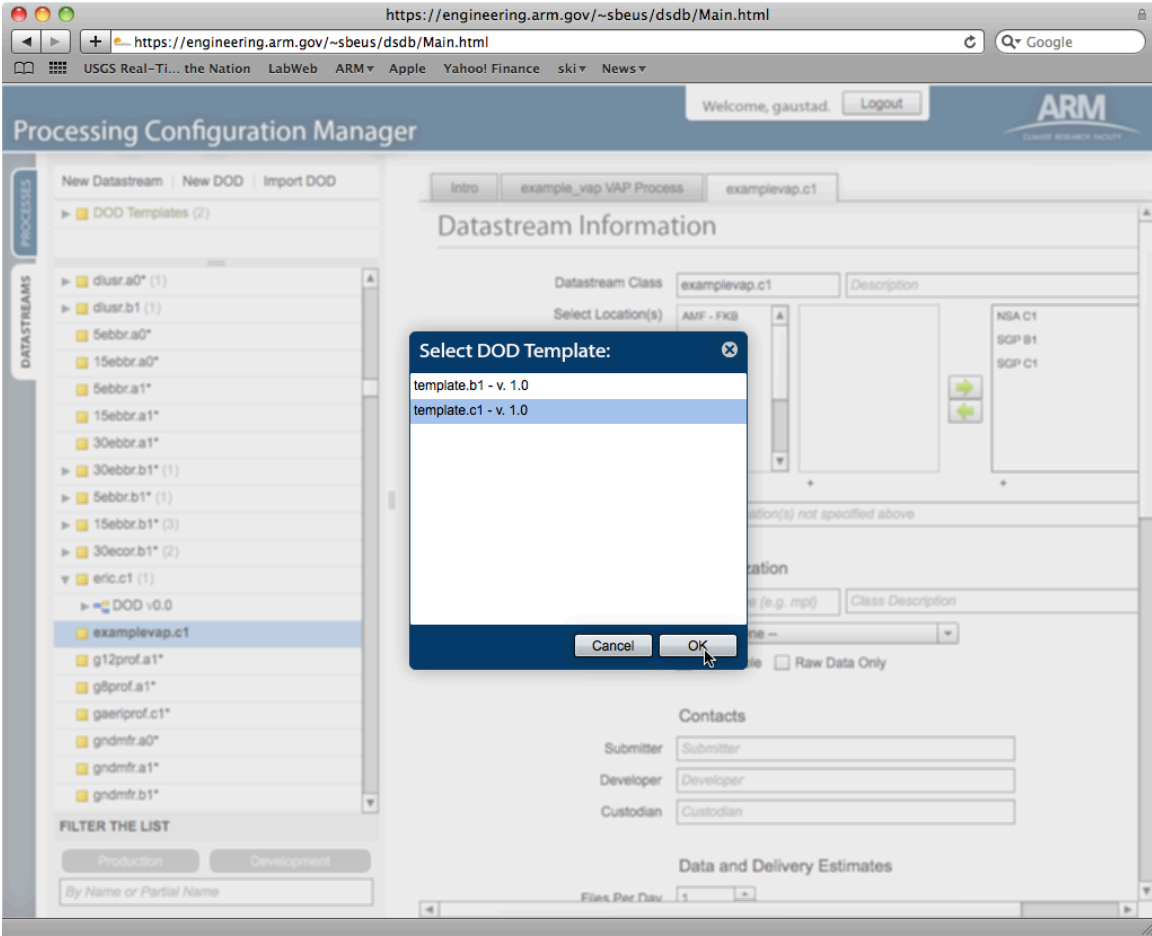
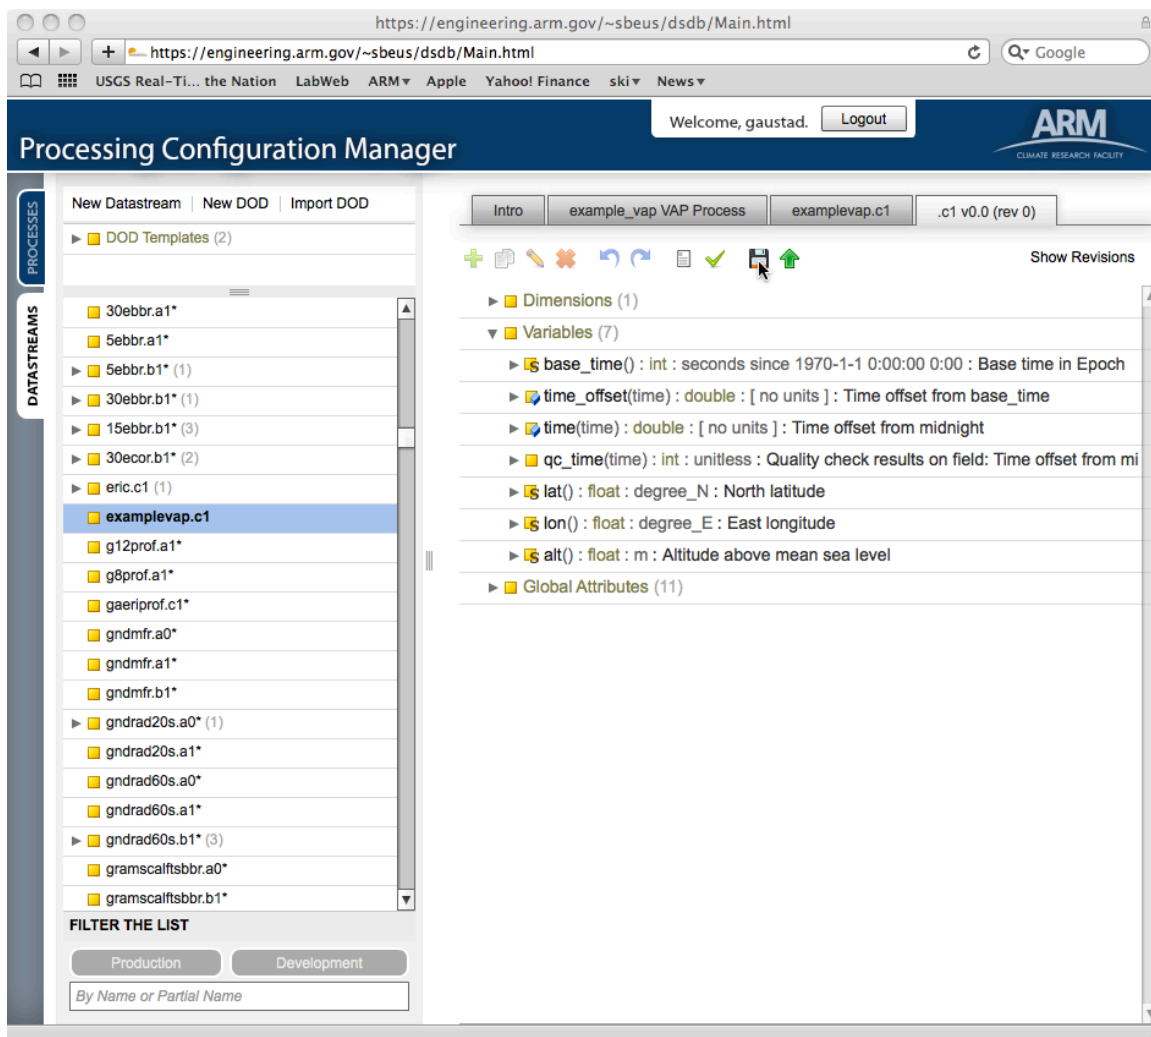

Figure 5.1. ‘Select DOD Template’ Window
Figure 5.2. DOD VAP Template
- b. Select the ‘template.c1’ from the DOD Template window (see Figure 5.1) to create a DOD with the dimensions, variables, and global attributes common to all VAP processes (Figure 5.2).
- Select the disk icon located at the top of the DOD (Figure 5.2) to save the DOD to the DSDB.
- c. Select the disk icon located at the top of the DOD (Figure 5.2) to save the updated DOD to the DSDB.